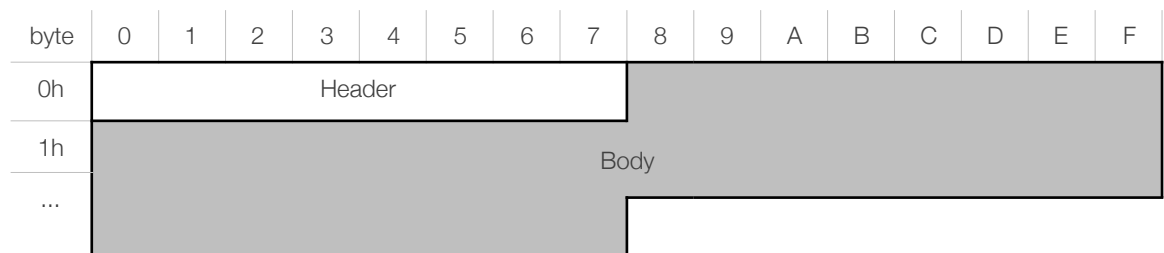

Figure 2-1. Packet Format
- Inside the frame, the packet consists of a header and a variable length body as shown in Figure 2-1.